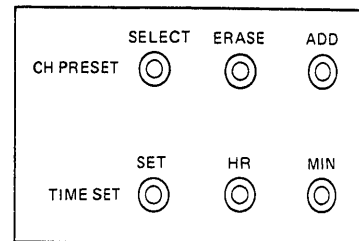
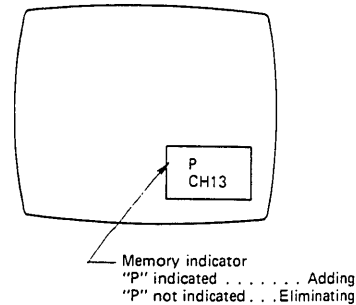

Fig. 3
Fig. 4
- (1) Press the CHANNEL BUTTON (▲: UP or ▼: DOWN) to select the unwanted channel.
- (2) Press the ERASE BUTTON while pressing the SELECT BUTTON in the door, and the channel is erased from the memory. When you press the SELECT BUTTON at this time, the time indication at the lower right side on the screen changes to "P" and "P" disappears by pressing the ERASE BUTTON. This means that the memory storage mode (indicated by "P") has changed to the memory erase mode ("P" disappears). (See Fig. 3 and Fig. 4)
- (3) Repeat item 1 and 2 to erase the memory of other unwanted channels.
- (1) Press the CHANNEL BUTTON (▲: UP or ▼: DOWN) to tune to the desired channel. When you tune the channel using CHANNEL BUTTON, press the CHANNEL BUTTON while pressing the SELECT BUTTON. At this time, the time indication disappears and "P" is not also displayed.
- (2) Press the ADD BUTTON while pressing the SELECT BUTTON, and the channel is stored in memory. "P" is indicated at this time. (See Fig. 3 and Fig. 4)
- (3) Repeat item 1 and 2 to store other channels in memory.